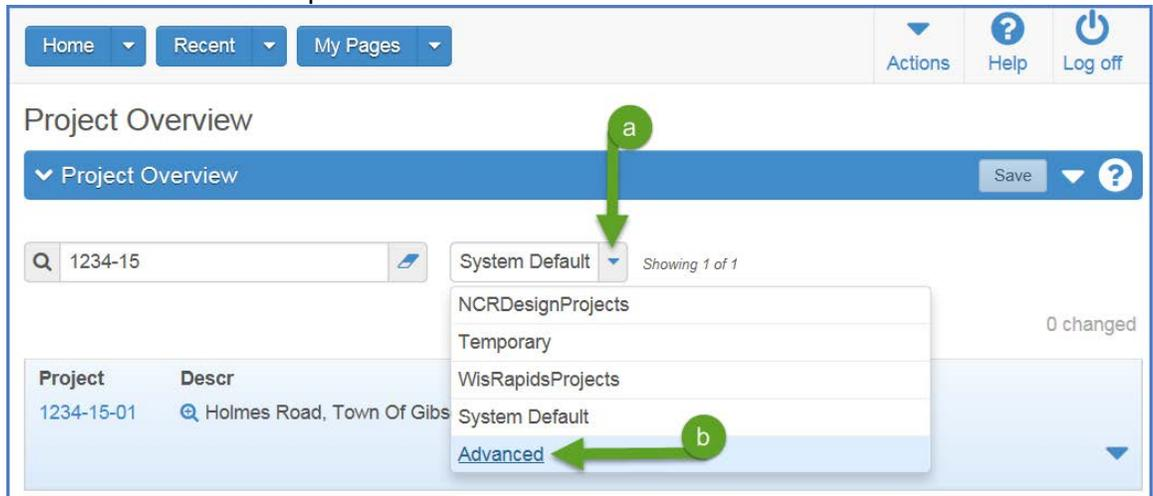

Figure 14
2. Staff can setup personalized custom searches for components (*Figure 14*). Each component can have its own search. This is helpful if you always search a list in a particular way.